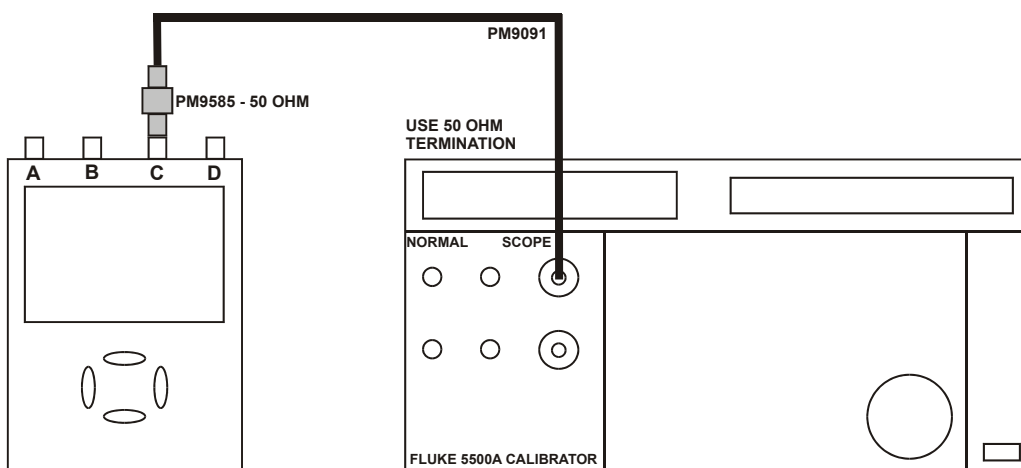

Figure 5-5. 5500A SCOPE Output to Test Tool Input C
2. Connect the Test Tool to the 5500A as shown in Figure 5-5.